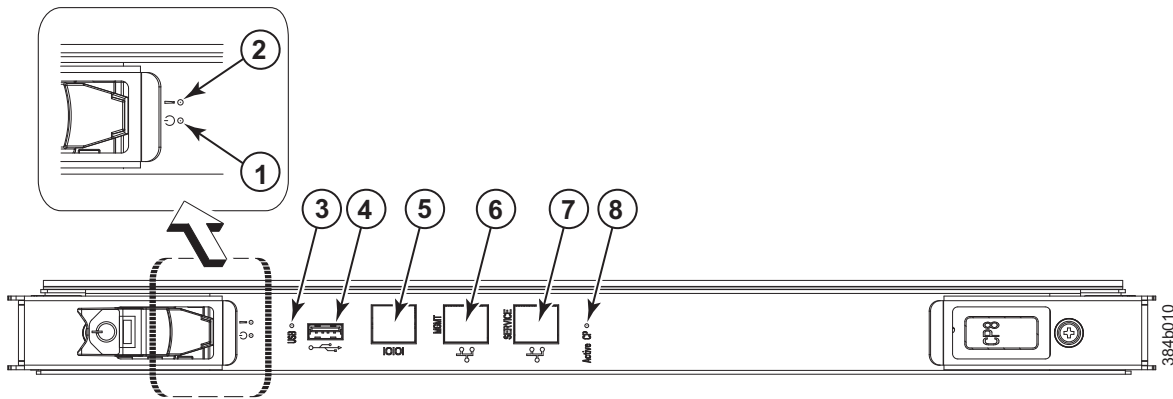

Figure 29. Control processor blade (CP8) ports and LEDs
1. Check the LED indicators on the CP blade (see Figure 29). The LED patterns may temporarily change during POST and other diagnostic tests. For information about how to interpret the LED patterns, see Table 10 on page 65.
Figure 29 shows the control processor blade (CP8) and component parts.